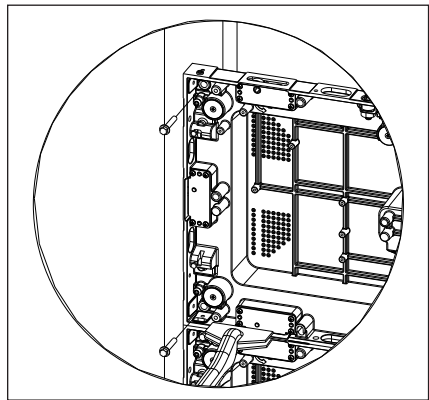

Figure 12: Secure Panel to Tube
- Secure the panel to the tubes through all four corner mounting locations. Refer to **Figure 12**.